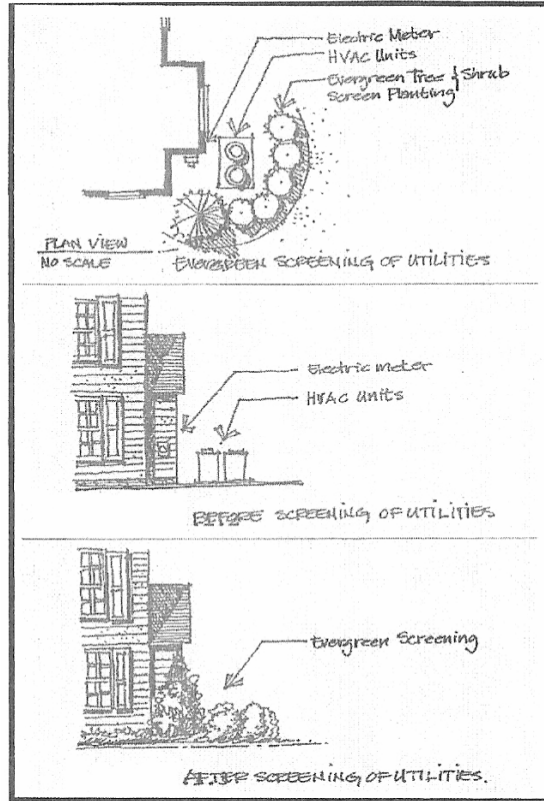

Figure 11.1.1 Screening of Utilities
All heating, ventilating, and air conditioning units, utility meters, electric utility transformer boxes, swimming pool pump equipment, permitted satellite or microwave dishes and similar equipment, apparatus and fixtures on each Lot, including all refuse containers stored outdoors, must be screened from view from streets and from neighboring Lots. Plants used as screening should be maintained by the Lot Owner so that the equipment, apparatus or fixture being screened is accessible (wherever possible) by service personnel and/or meter readers. Plant materials for this purpose shall be installed using seven (7) gallon sizes, evergreen only. Recommended plant types include Otto Luykens Laurel, Schipka Laurel, Dwarf Burford Holly, Compacta Holly, Variegated Ligustrum, Cleyera, etc., although this is not intended as an exclusive listing. (See Figure 11.1.1 )